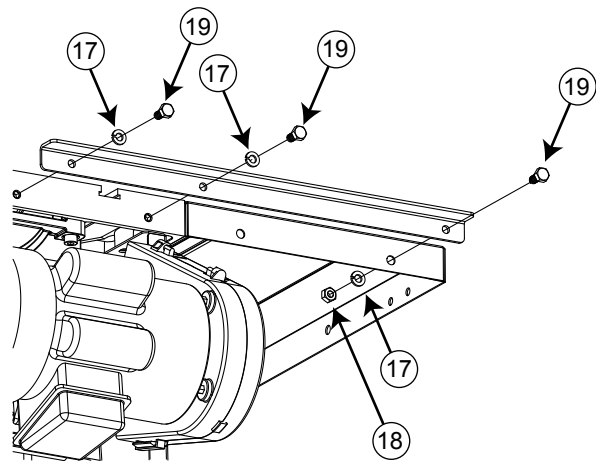

Fig. 5
- Mount the left rear rail (the shorter rail) to the rear of the table and to the left extension wing using three M8 x 16 hex screws, three M8 lock washers, and one M8 hex nut (see Fig. 5). Insert one hex screw into the hole in the extension wing and then use a lock washer and hex nut to hold the screw in place, as shown. The other two hex screws thread into corresponding holes in the cast iron table. Place a lock washer on each screw before threading them into the holes. Hand tighten the hex screws; do not fully tighten them.